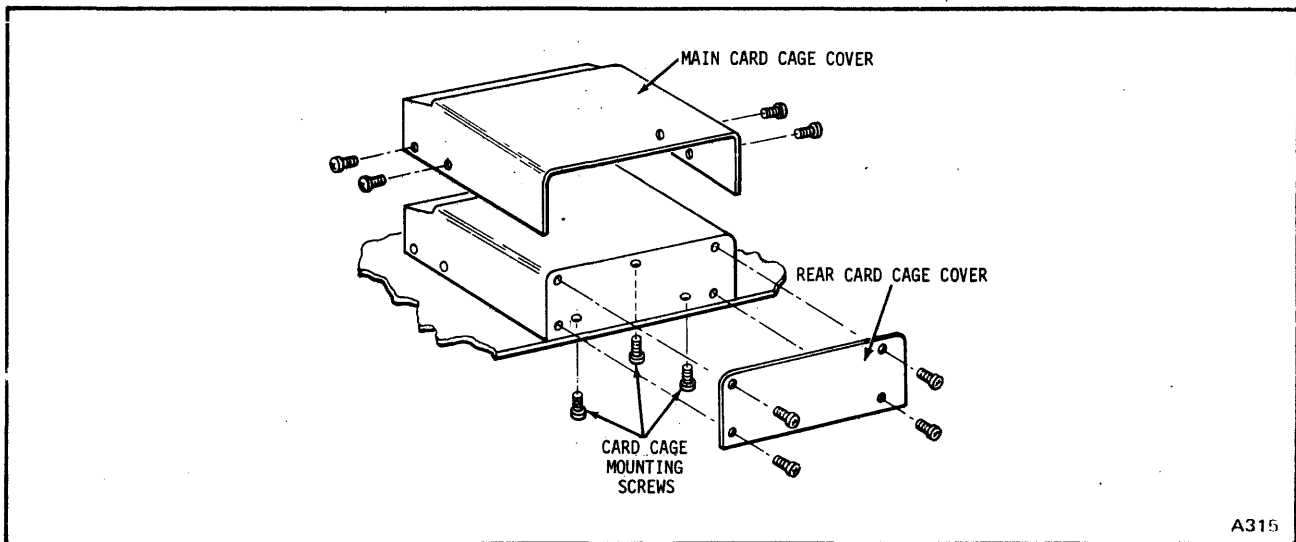

Figure 6-5. Card Cage Repositioning
- a. Remove the four screws retaining the rear card cage cover, Figure 6-5.
- c. Remove the three screws from the underside of the mainframe which are holding the card cage in place, Figure 6-5.